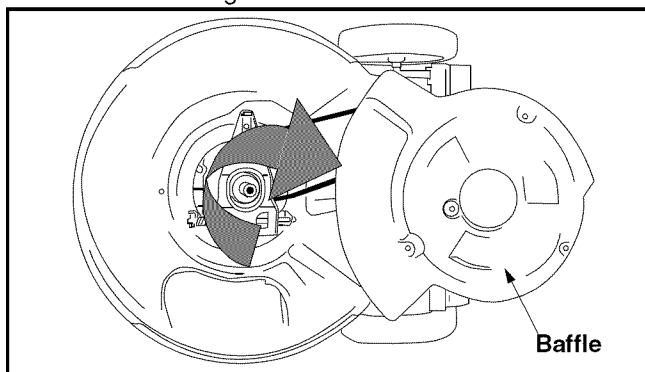

Figure 15
- Remove the three hex screws holding the baffle to the deck and pivot baffle towards the rear of the mower. See Figure 15.